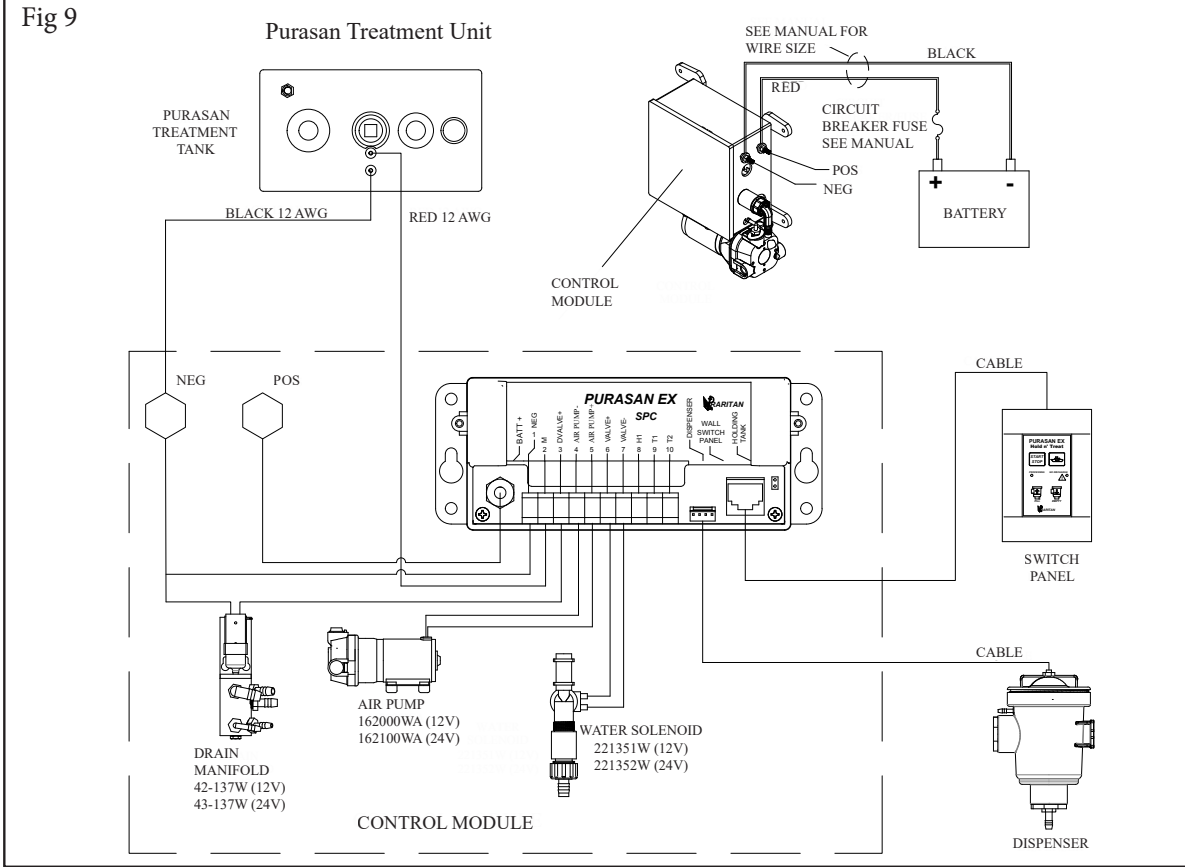

FIG 10 Raritan Toilet with STC Control activates PURASAN®EX
2. See Figure 10 for Raritan toilets that utilize the STC control module.